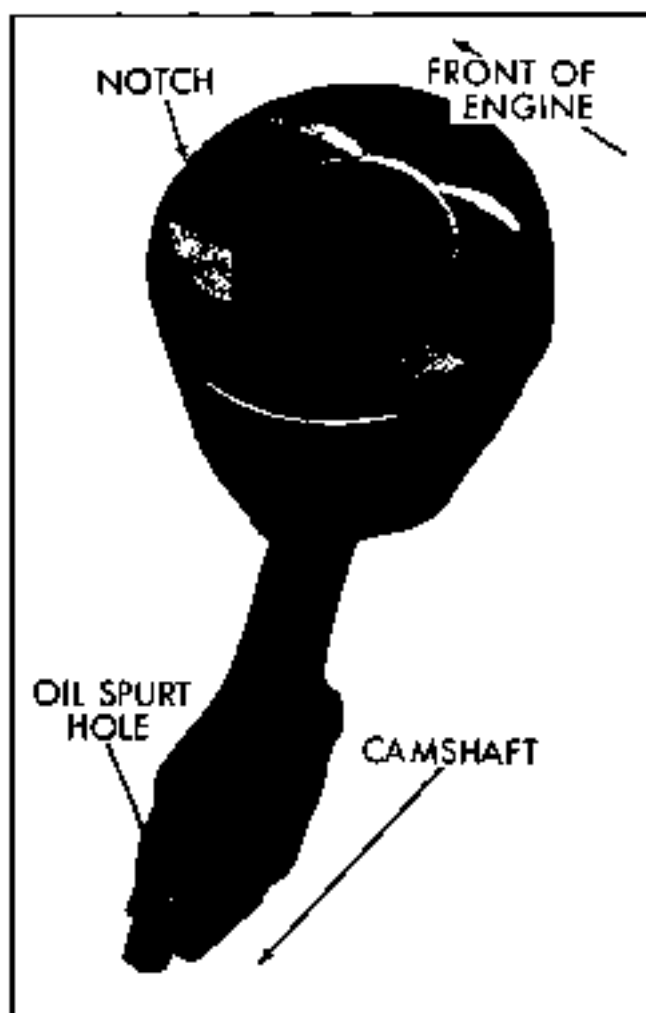

Fig. 6-122 Piston and Rod Assembly
2. Using J 8037 (Fig. 6-115) ring compressor, insert piston connecting rod assembly into cylinder so that notch in top of piston is toward front of engine. Be certain oil spurt hole (Fig. 6-122) in connecting rod is toward camshaft.
There is a notch cast in the top of all piston heads to facilitate proper installation. The piston assemblies should always be installed with notch toward front of engine. Position rod in piston so that oil squirt hole (Fig. 6-122) is toward camshaft.